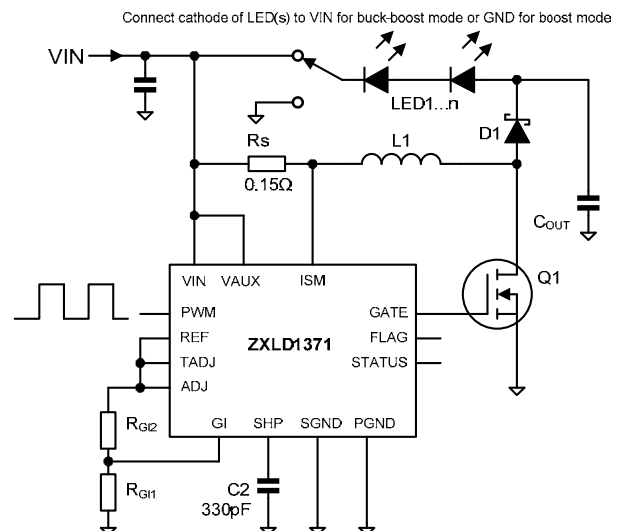

Figure 3. Boost and Buck-boost configuration
b) Boost and Buck-Boost modes – the most simple boost/buck-boost circuit is shown in Figure 3
The average current in the LED, I_{LED} , is always less than I_{RS} . The feedback control loop adjusts the switch duty cycle, D, to achieve a set point at the sense resistor. This controls I_{RS} . During the interval t_{OFF} , the coil current flows through D1 and the LED load. During t_{ON} , the coil current flows through Q1, not the LEDs. Therefore the set point is modified by D using a gating function to control I_{LED} indirectly. In order to compensate internally for the effect of the gating function, a control factor, GI_ADJ is used. GI_ADJ is set by a pair of external resistors, R_{GI1} and R_{GI2} . (**Figure 3**.) This allows the sense voltage to be adjusted to an optimum level for power efficiency without significant error in the LED controlled current.